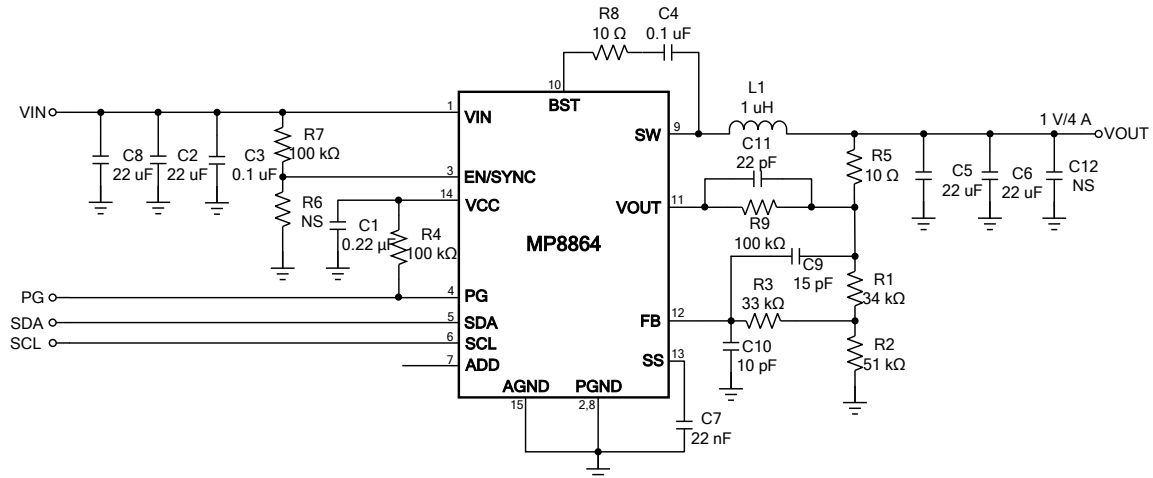

Figure 15—12 V Input-1 V/4 A Output
- 13) The recommended layout is based on Figure15 and the Typical Application circuit on page 26.